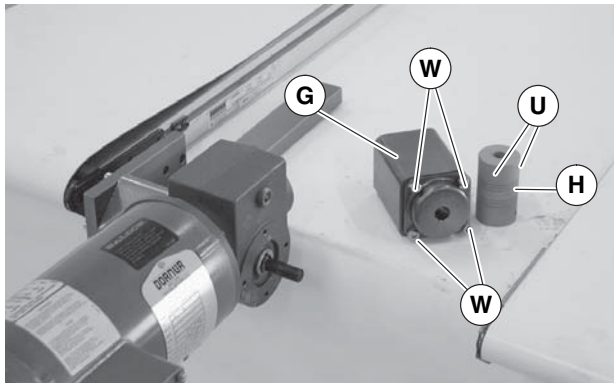

Figure 35
- Remove four (4) screws (Figure 35, item W) and remove guard tube (G). Loosen set screws (U) and remove flex coupling (H).